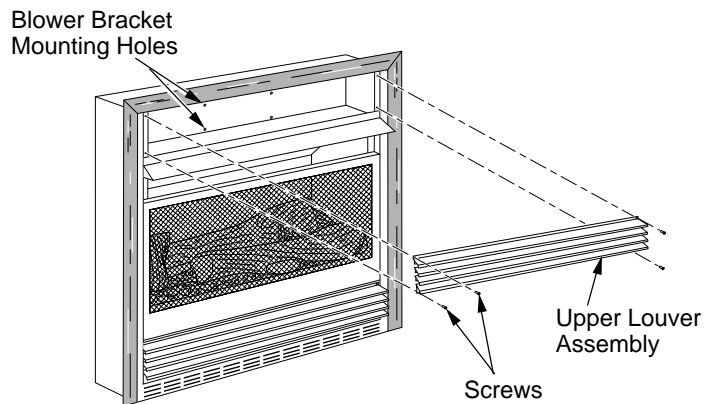
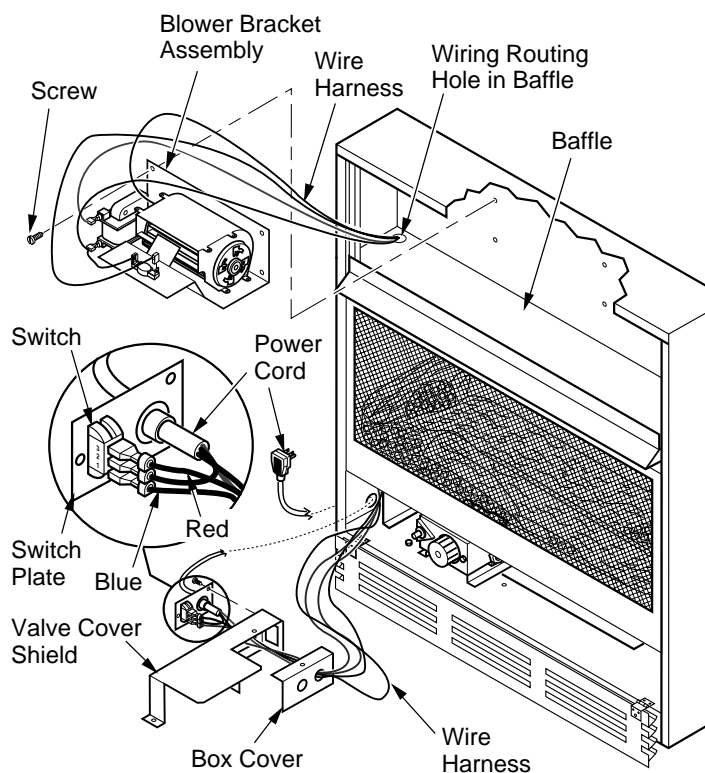
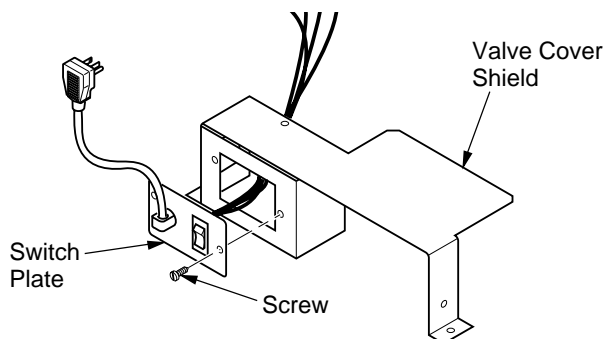

Figure 16 - Removing Upper Louver Assembly
Figure 18 - Installing Blower Bracket Assembly
Figure 19 - Installing Switch Plate to Valve Cover Shield
2. Remove 4 screws from louver assembly (see Figure 16). Save these screws.
3. Note the wire locations on back of AUTO/OFF/ON switch. The terminals on back of switch are numbered 1, 2, and 3. Carefully remove red wire from terminal 1 and blue wire from terminal 3. Black wire can remain on middle terminal 2 (see Figure 18).
5. In top of the heater cabinet, locate the four mounting holes on the outer casing. Align these four holes with those on the blower bracket assembly. Attach blower bracket assembly to the outer casing with 4 #10 screws provided (see Figure 18).
6. Route the wire harness through the hole in left side of baffle. Pull wire harness through lower opening above where the valve shield was removed. (see Figure 18).
7. Insert the 4 wire harness into one of the round holes in the rear of the valve cover shield and through the rectangular hole in the front of shield (see Figure 18).
- Install the switch plate on the valve cover shield with 2 #10 screws provided (see Figure 19). Reinstall the valve cover shield. Route power cord out of the cabinet by inserting it through the bushing on the outer casing (see Figure 18, page 12). Plug fan kit into 120-Volt grounded power supply and test operation. **Note:** When switch is in the AUTO position, the fan will start after the heater has run for a few moments. The fan will continue to run for several moments after the heater has been turned off. When switch is in the ON position, the fan will run until turned to OFF. Reinstall upper louver assembly and hood if previously removed, (see Figure 16, page 11). Close lower louver door.
- Reinstall upper louver assembly and hood if previously removed, (see Figure 16, page 11). Close lower louver door.